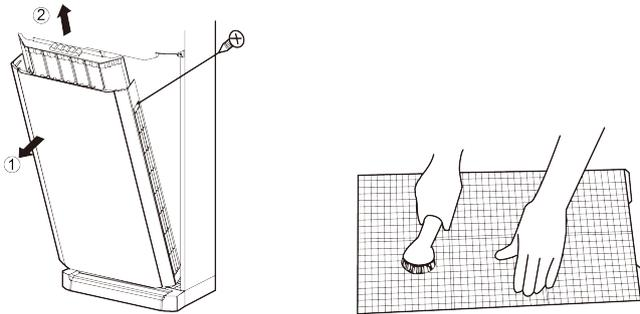

Fig 8.1
As shown in Fig 8.1, install the stands of both ends of the panel into the slot and put the middle rotating shaft into the groove, then place the panel and clasp back along the arrow direction.
(1) Disassembling the air filter.
As shown in Fig 8.1, take out the decorative strip at position ① and unscrew the screw. After opening the glass panel and unscrew the screws fixing the air filter. At last pull out the air filter along the arrow direction ②.
(2) Cleaning the filter.
Slightly flat the filter or clean the filter with electric cleaner. If there is too much dust on the filter, clean it with a little neutral detergent or warm water. After that, dry the filter and reinstall it, as shown in Fig 8.1.